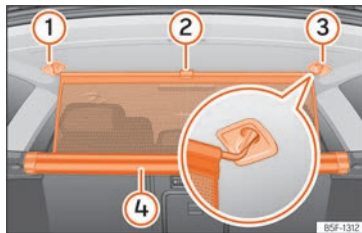

Fig. 125 In the luggage compartment: securing the net partition.
- Pull up handle » Fig. 125 (2) to remove the net from the casing (4).
- Hook in the net partition on the right or left side (3) [magnified image].
- Hook in the net partition into the housing on the other side (1) by pulling the rod.